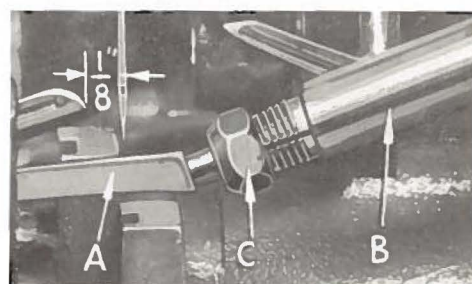
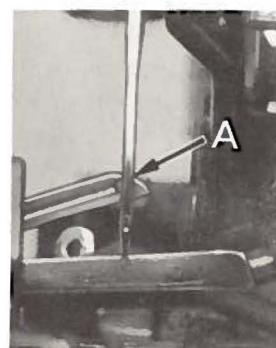

Fig. 5
Fig. 7
At this point, insert lower looper (A, Fig. 5) into bar (B). With lower looper at left end of its stroke, set looper point  $\frac{1}{8}$  inch from center of needle (Fig. 5), using looper gauge No. 21225- $\frac{1}{8}$ , on Styles 39500 FS, FT, FU, GT and JP. On Styles 39500 GD and GL, with lower looper at left end of its stroke, set looper point  $\frac{1}{16}$  inch from center of left needle, using looper gauge No. 21225- $\frac{1}{16}$ . Now assemble differential (front) feed dog.
Now finish lower looper adjustment. As lower looper moves to the right, its point should be set into the needle scarf (A, Fig. 7) until the needle springs forward from rear guard surface another .002-.004 inch. Tighten nut (C, Fig. 5) securely.